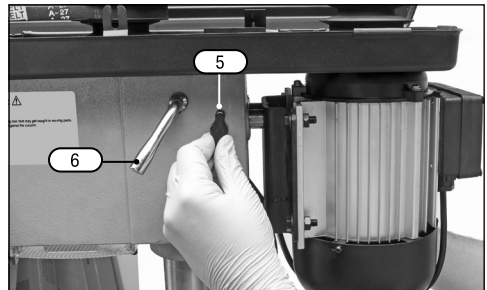

Fig. 13
7.1 Spindle Speed Adjustment (Fig. 10 – Fig. 13)